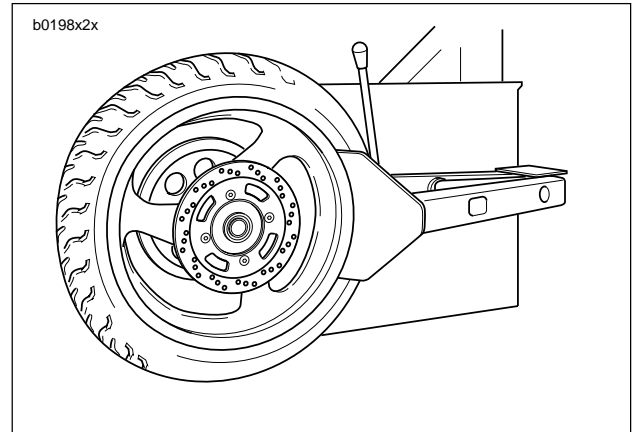

Figure 2-27. Loosening Beads from Rim Flange
3. See Figure 2-27. Loosen both tire beads from rim flange.